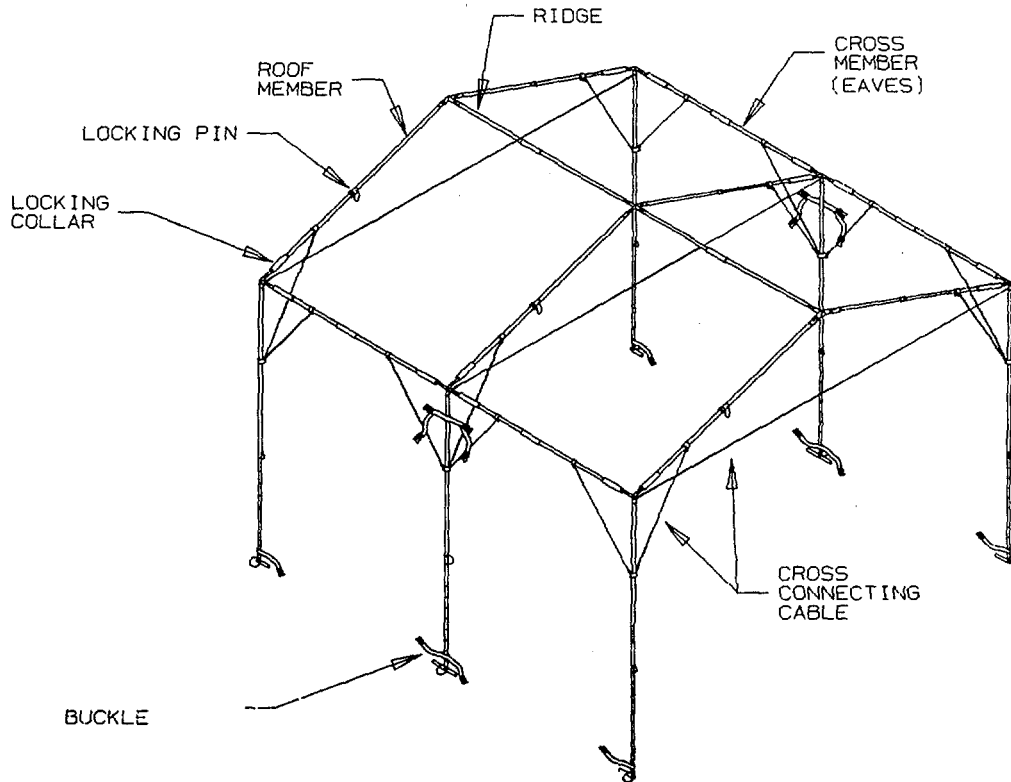

Figure 1-4. ICP Frame Overview
b. All major tent frame components are identified in Figure 1-4.